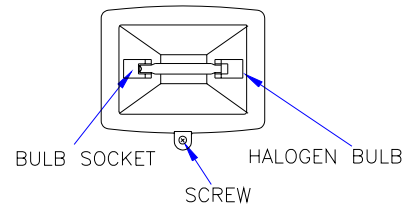

FIGURE 7
- (1) Do not touch the floodlight while it is in use or still hot. Allow it to cool off (about 5 minutes) before touching it.
- (2) Do not use halogen bulb rated higher than 150 watts.
- (3) Disconnect the power cord or wall switch.
- (4) Unscrew the screw at the bottom of floodlight (FIGURE 7).